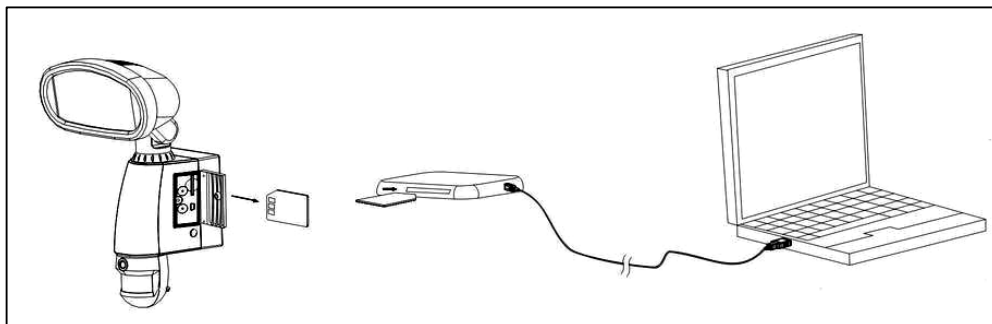

Fig. 11
1. Viewing image by computer through a card reader (see fig. 11)
3. Viewing image from universal card reader (see fig. 11)